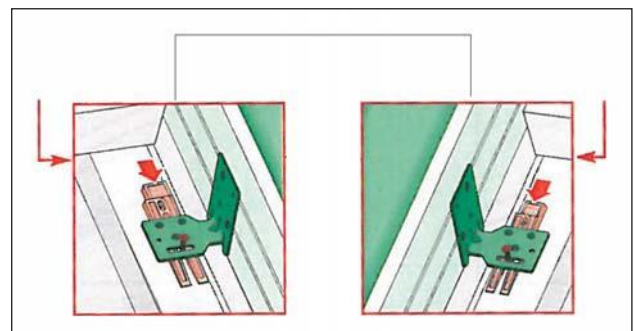

Fig 11
12) Open the roof window slightly and check if the gap between the bottom edge of the frame and the bottom edge of the sash is even along its whole length. If it is not, put a plastic wedge (included in the assembly kit) under the upper left or right hand side metal angle (where the gap is narrower) (Fig 11).